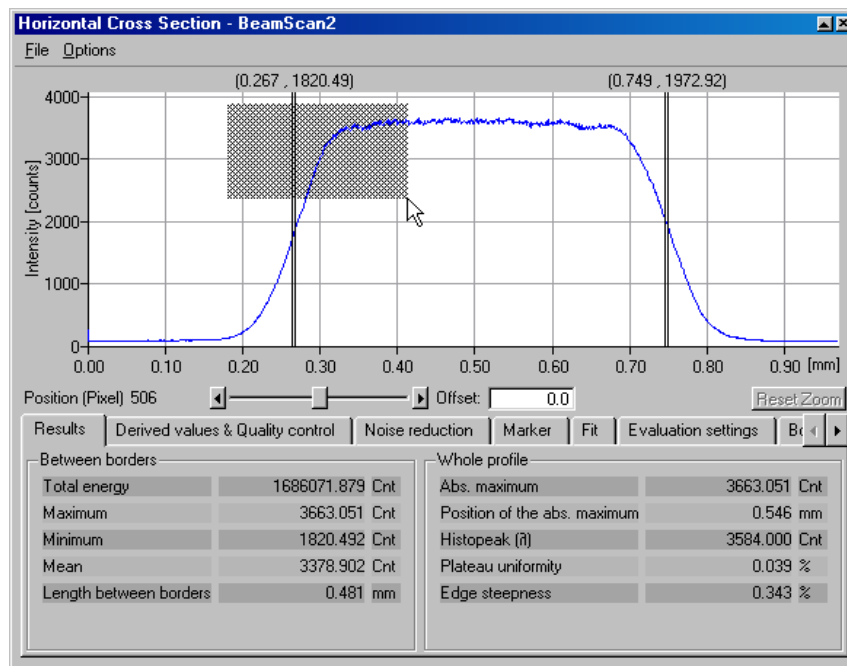
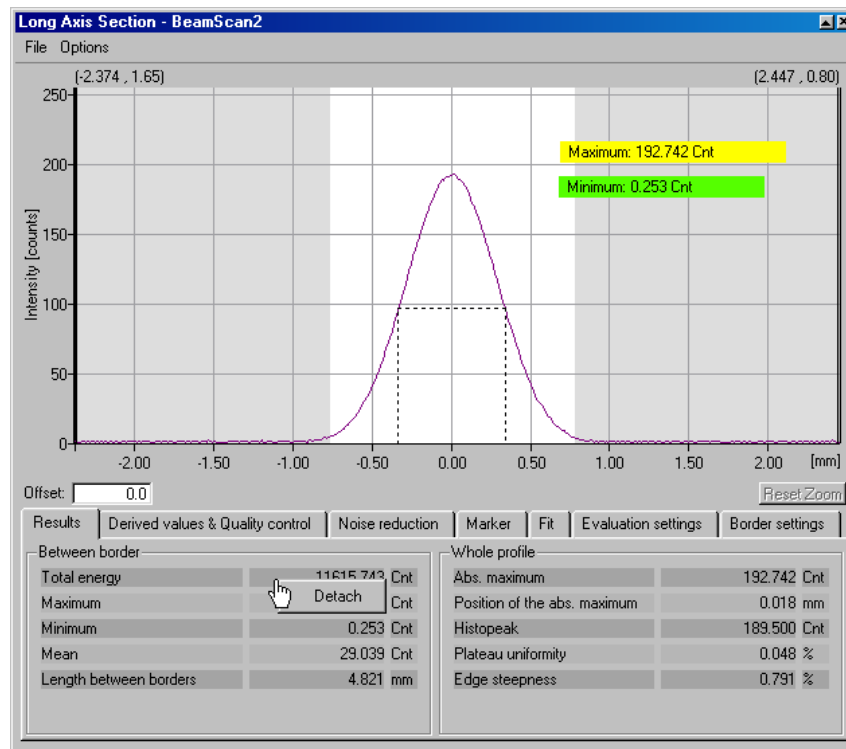

Figure 4.27: Horizontal Cross Section
Figure 4.28: Beam Section
In addition to this the horizontal and vertical sections can be positioned to any exact pixel position in the image by sliders in their tool windows (Figure 4.27).
The windows for displaying the sections and their evaluation results can be activated from the **2D-View** menu or with the corresponding tool buttons (Figure 4.27 and Figure 4.28).
Inside the graphics area a zoom region can be defined by pressing the right mouse button and moving the mouse (see Figure 4.27). By releasing the button the shaded region is displayed filling the graphics area. The zoom region can be moved along the curve by pressing and holding the left mouse button. While the zoom is active the words "**Zoom active**" are displayed in the upper left corner of the graphics area. Further zoom regions can be defined inside the current zoom region. The zoom can be reset by a menu item of the **Options** menu or by a button on the right beneath the graphics area.
Border lines can be set in the graphics area manually or automatically. These border lines are shown as double lines in the graph. The curve coordinates of the so marked positions are displayed in brackets above the border lines (see Figure 4.27). The criteria for setting the borders automatically are described in detail in section 4.2.10.1.
The border lines should not be mistaken for the marker lines. The marker lines mark special positions and are painted as dashed lines in the graph (see also Figure 4.28). The criteria of placing the marker lines are explained in section 4.2.10.1.
- In the graphics area the regions of the section outside the ROI are marked with a gray background (see Figure 4.28).